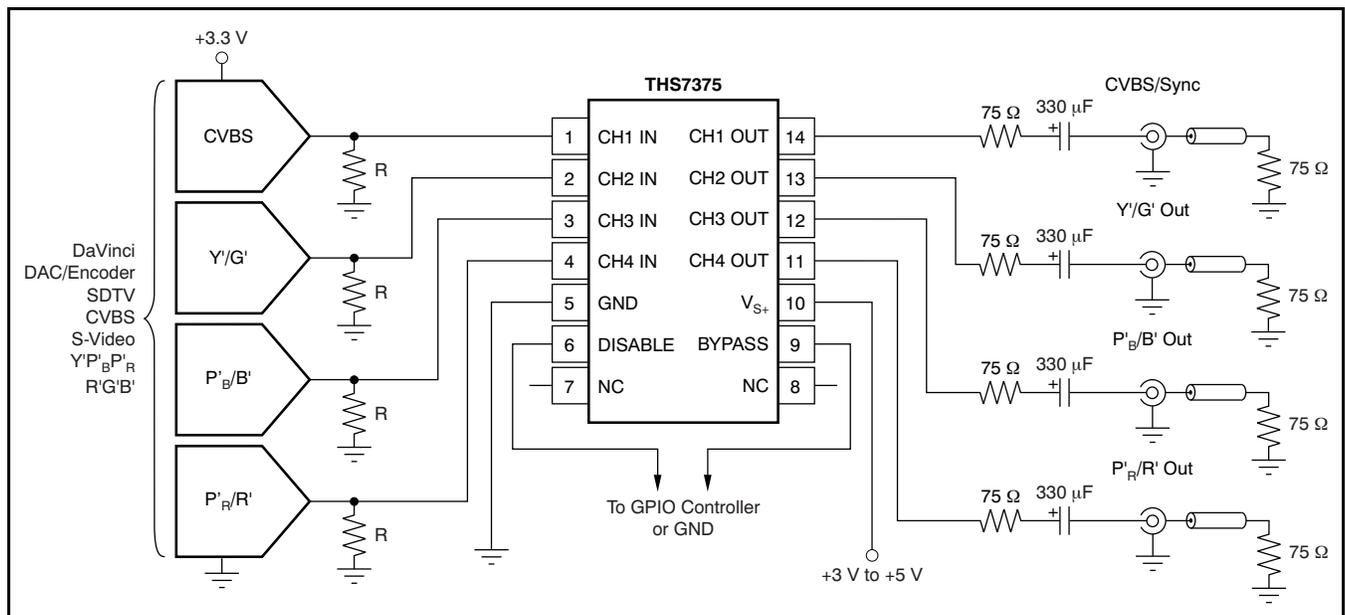

Figure 46. Typical SDTV CVBS/ $Y'P'_B P'_R$ Inputs from DC-Coupled Encoder/DAC with AC-Coupled Line Driving
A typical application circuit that uses the THS7375 as a video buffer is shown in Figure 46. It shows a DAC or encoder driving the input channels of the THS7375. One channel is a composite video (CVBS) channel of a standard definition (SD) video system. The other channels are the component video $Y'P'_B P'_R$ (sometimes labeled $Y'U'V'$ or incorrectly labeled $Y'C'_B C'_R$) signals of a 480i or 576i system. These channels could easily be the S-Video Y'/C' channels or the $R'G'B'$ channels of a SCART system.